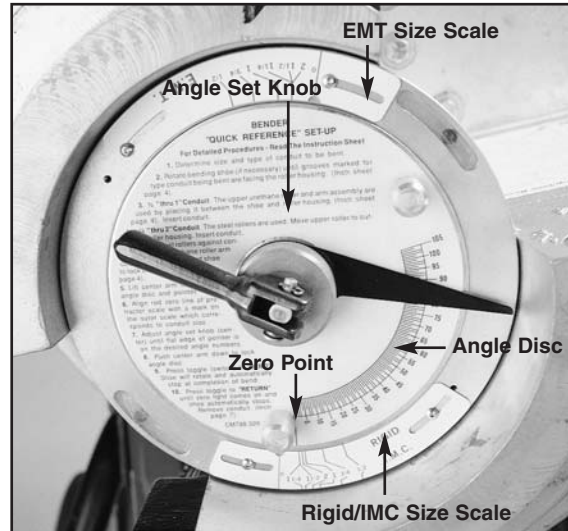

Figure 10. Set Angle Indicator
- a. Lift the locking handle to release the angle set knob and angle disc. Use the two small pins to rotate the angle disc, clockwise. See Figure 10.
- b. Set the bender for specific conduit size by turning the angle disc until the red line is on an outer size scale mark which matches the size conduit being bent. See Figure 10. Be sure the correct size scale is being used (EMT, IMC, or Rigid).
- c. Move the angle set knob (See Figure 10) until the flat edge of the pointer is on the line indicating the exact degree of bend desired. Lower the center arm to lock the pointer, angle disc and to prevent inadvertent movement during bending.